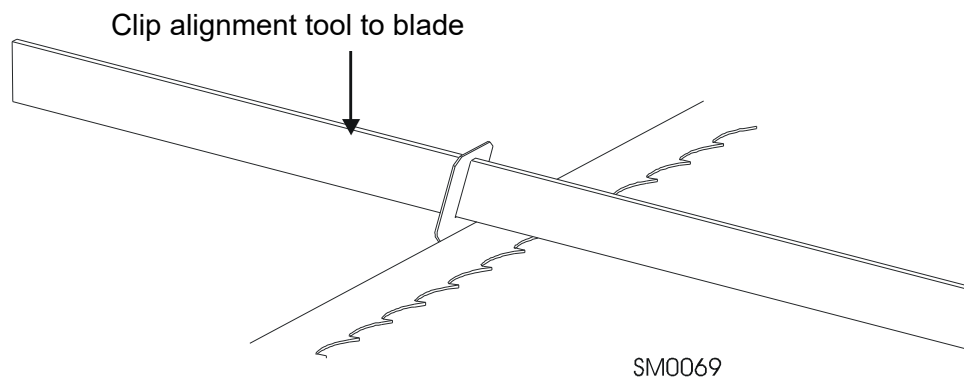

FIG. 3-12
See Figure 3-12.
5. The two measurements should be the same. If they are not, loosen one side set screw of the guide assembly and adjust the blade guide in the vertical plane using the screws shown in Figure 3-12.